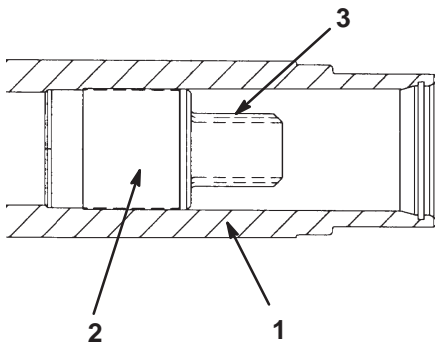

Figure 10
- Check the drive adapter (Fig. 10) inside of the reel shaft. The adapter should be free of bending and distortion. Check the splines for excessive cracks or distortion. Replace the reel if necessary.